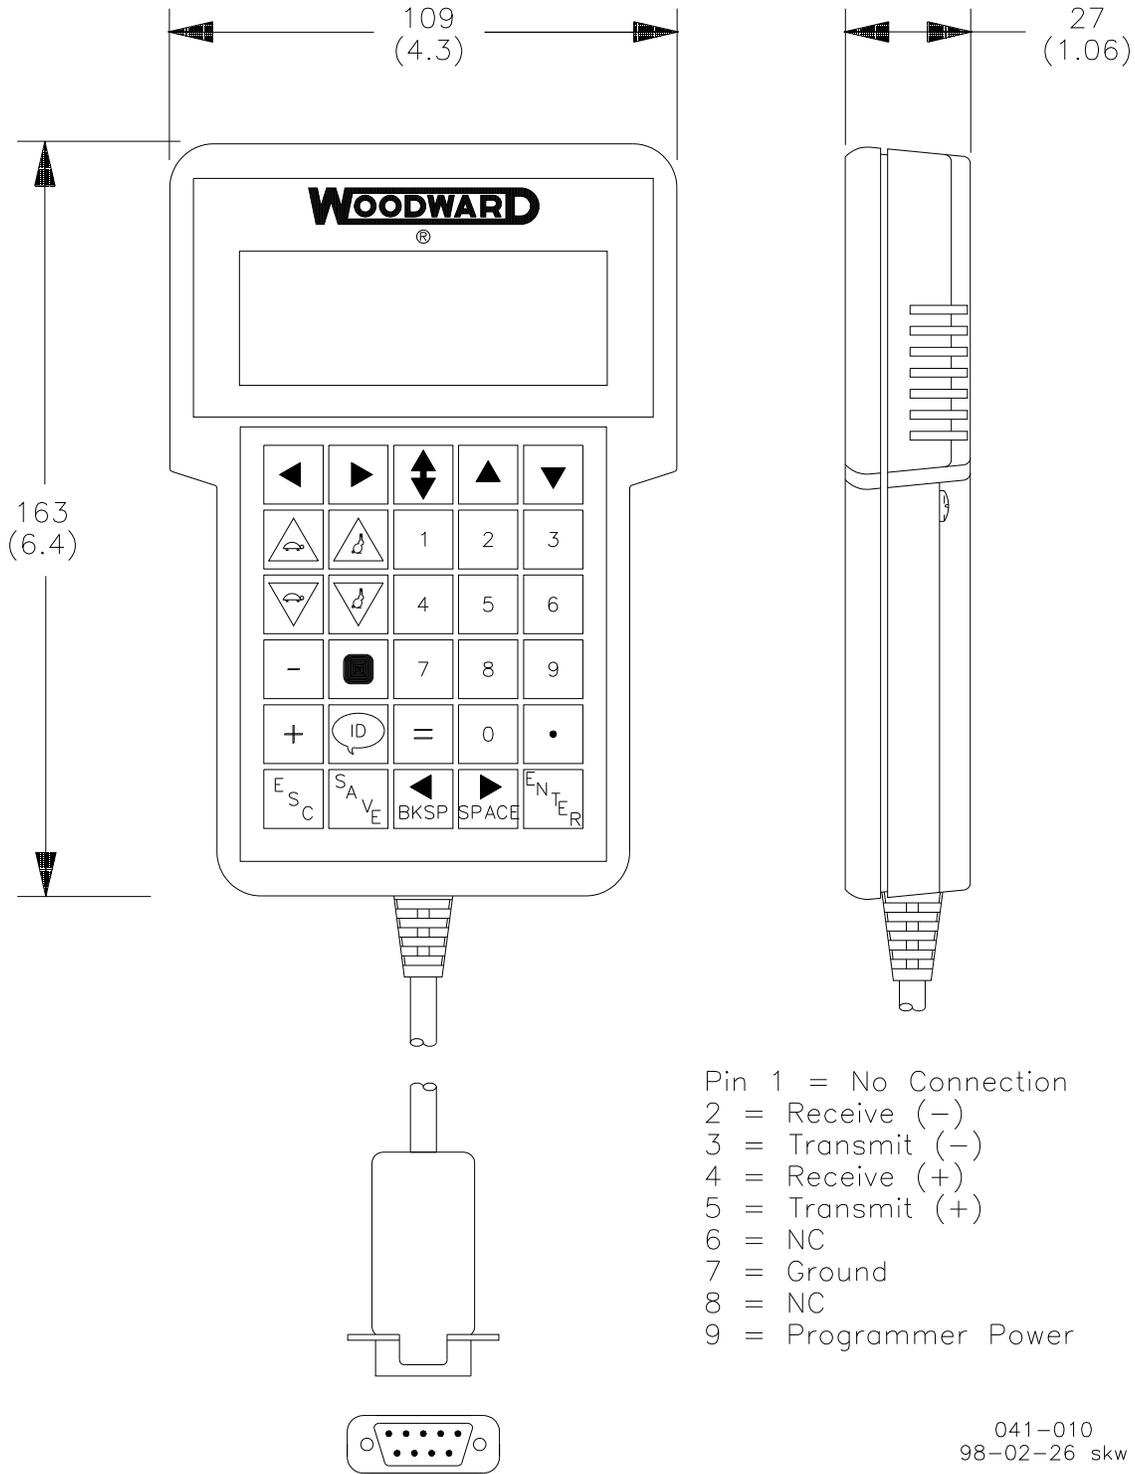

Figure 1-2. Handheld Programmer Outline Drawing
- Hand Held Programmer (Figure 1-2), part number 9907-205, can be used for adjusting the 828 control. It plugs into serial port J1 of the control. This part is EU Directive compliant.